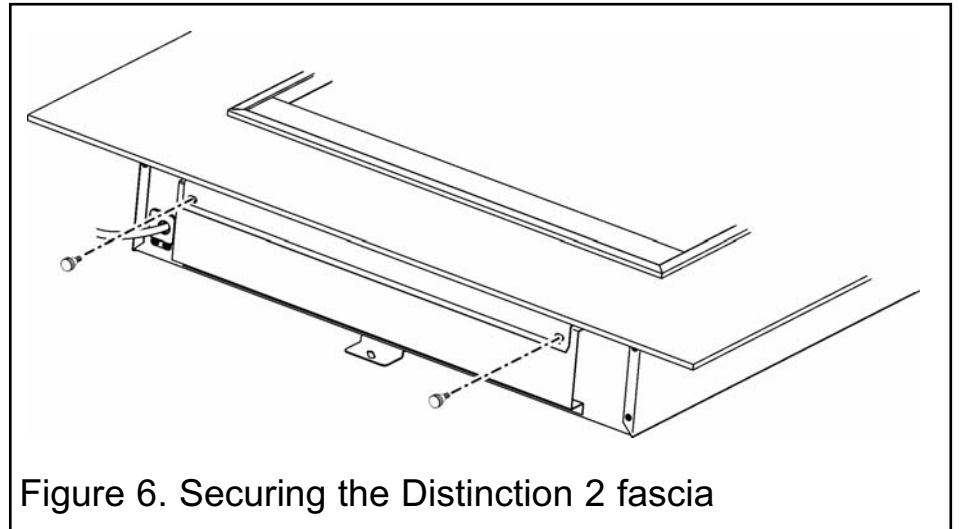

Figure 6. Securing the Distinction 2 fascia
2. The bottom of the fascia has a bracket with two holes. Secure the bottom of the fascia to the heater using the two knurled shoulder screws supplied (See figure 6).